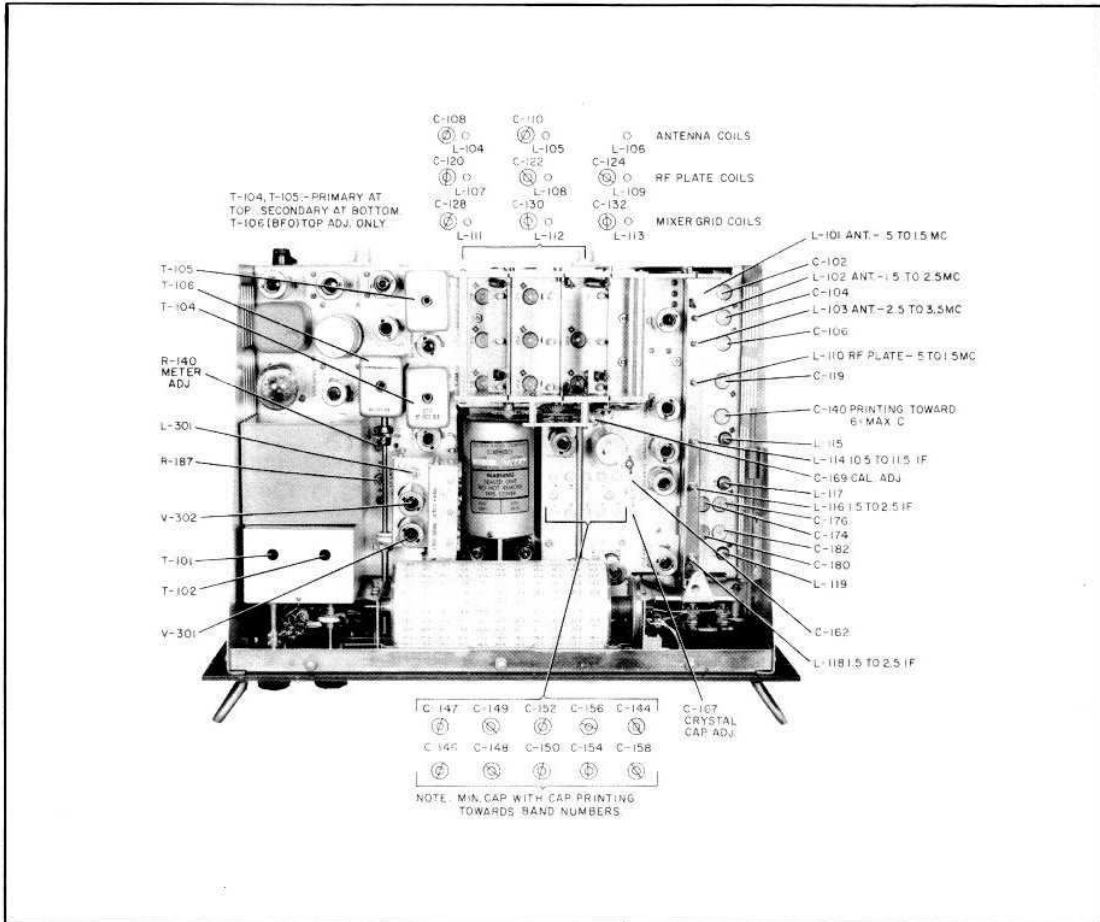

Figure 5-1. 51J-4 Alignment Adjustments
(2) Line up the crystal filter PHASING control knob with the panel mark and with the mid-range position of the phasing capacitor. To accomplish this, with the aid of a flashlight look into the right-hand hole in the top of the crystal filter cover (see figure 5-1) in order to see the plates of the phasing capacitor. Turn the PHASING control until the rotor plates are straight down toward the bottom of the receiver, i. e., until the rotor plates completely engage the bottom set of stator plates. Loosen set screws in PHASING control knob. Set knob line 90° to the left of the panel mark. Tighten set screws. Turn knob to panel mark. Phasing capacitor is now at mid-range.
(3) Connect the frequency modulated signal generator lead to pin 7 of V106. Connect oscilloscope lead to junction of R150 and R152. Turn on generator and oscilloscope and allow them to warm up.
(4) Turn SELECTIVITY switch to position 1. Select 3 kc filter, turn AVC off, LIMITER off, BFO off, CALIBRATE off and AUDIO GAIN to position 0. Tune receiver to carrier frequency of signal generator, which should be between 1.5 and 3.5 mc.
(5) Turn RF GAIN to mid-range and synchronize scope. Two fairly symmetrical peaks should appear on the scope screen. If they do not, adjust receiver tuning, RF GAIN and oscilloscope controls until they do appear. Each of these peaks is essentially an i-f response curve.
(6) Rotation of the PHASING control to the left should cause a rejection notch to appear at one side of each peak. If this notch does not appear, set the PHASING control about one-eighth turn to the left of center and adjust the core in top of T102 (accessible through the right-hand hole in the crystal filter cover) until it does appear and is well-defined